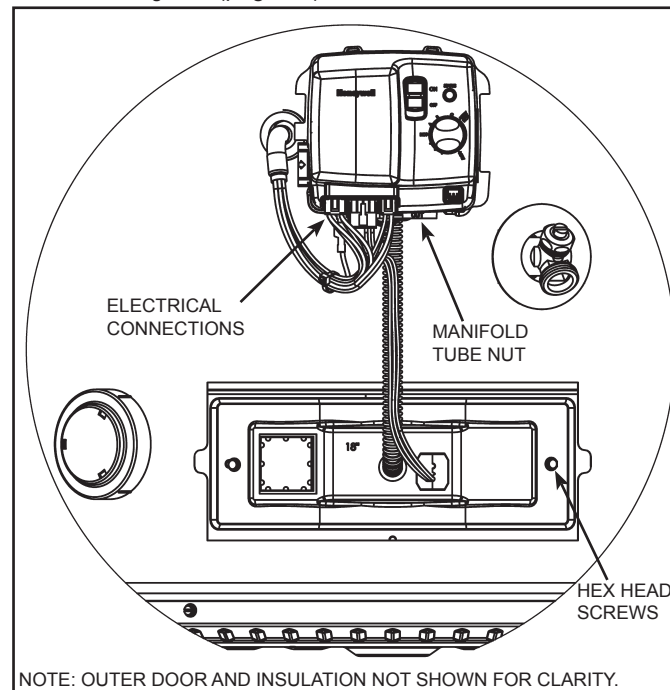
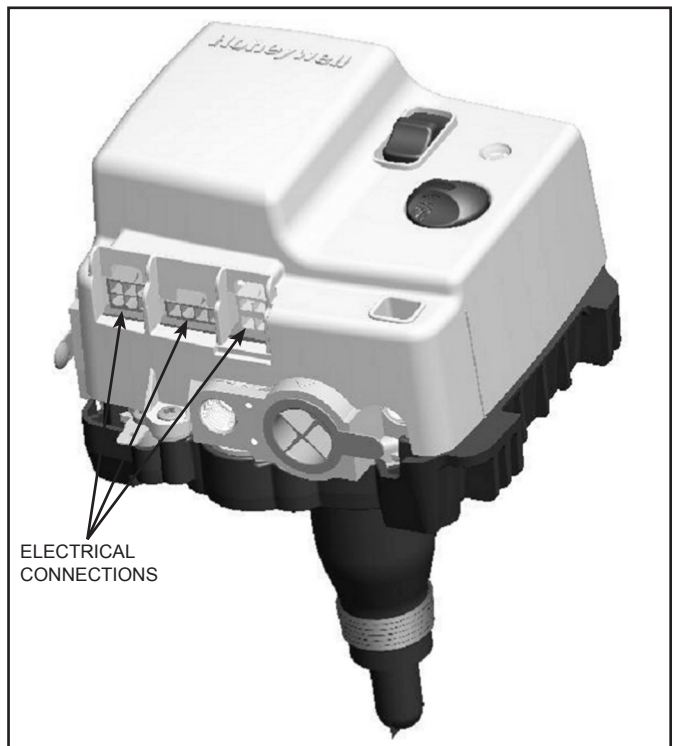
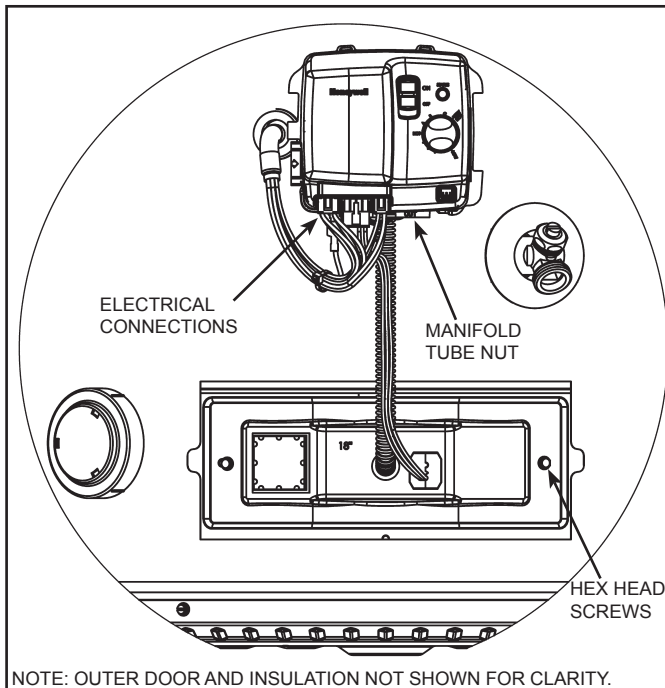

Figure 7. Electrical Connections at the Bottom of the Gas Valve
Figure 10. Electrical Connections on the Gas Valve
Figure 15. Electrical Connections at the Bottom of the Gas Valve
5. Unplug all the electrical connections from the bottom of the gas control valve/thermostat. See *Figure 7*.
6. Using a 3/4" open end wrench remove the manifold tube from the gas control valve/thermostat (turning counter-clockwise for natural gas, clockwise for LP). Grasp the manifold tube and push down slightly to free the manifold tube from the gas control valve/thermostat. See *Figure 7*.
8. Use a 1/4" nut-driver or 1/4" socket & ratchet to loosen the 2 hex head screws on the inner door so the inner door/manifold/burner assembly can be removed. See *Figure 7*.
2. After confirming no materials of any type are between door gasket and combustion chamber shield, align the screws on the inner door with the screw holes on the combustion chamber and tighten with 1/4" nut-driver or 1/4" socket & ratchet. See *Figure 7*.
Note: Do Not apply any thread sealant at this connection). To prevent any cross threading the manifold tube should be started by hand (turn clockwise for natural gas, counter-clockwise for LP). Upon tightening with the fingers and confirming it has not been cross threaded, tighten nut with a 3/4" open end wrench. See **Figure 7** (page 8).
5. Reconnect all the electrical connections to the bottom of the gas control valve/thermostat, gently pushing each connector up until it snaps into place. See **Figure 7** and **Figure 10**.
- Reconnect all the electrical connections to the bottom of the gas control valve/thermostat, gently pushing each connector up until it snaps into place. See **Figure 10** and **Figure 11** (page 12).
5. Unplug all the electrical connections from the bottom of the gas control valve/thermostat. See **Figure 15** (page 14).
6. Using a 3/4" open end wrench remove the manifold tube from the gas control valve/thermostat (turning counter-clockwise for natural gas, clockwise for LP). Grasp the manifold tube and push down slightly to free the manifold tube from the gas control valve/thermostat. See **Figure 15** (page 14).
8. Use a 1/4" nut-driver or 1/4" socket & ratchet to loosen the 2 hex head screws on the inner door so the inner door/manifold/burner assembly can be removed. See **Figure 15** (page 14).
2. After confirming no materials of any type are between door gasket and combustion chamber shield, align the screws on the inner door with the screw holes on the combustion chamber and tighten with 1/4" nut-driver or 1/4" socket & ratchet. See **Figure 15** (page 14).
Note: Do Not apply any thread sealant at this connection). To prevent any cross threading the manifold tube should be started by hand (turn clockwise for natural gas, counter-clockwise for LP). Upon tightening with the fingers and confirming it has not been cross threaded, tighten nut with a 3/4" open end wrench. See **Figure 15** (page 14).
- Reconnect all the electrical connections to the bottom of the gas control valve/thermostat, gently pushing each connector up until it snaps into place. See **Figure 10** (page 10) and **Figure 15** (page 14).
- Note:** **Do Not** apply any thread sealant at this connection). To prevent any cross threading the manifold tube should be started by hand. (Turn clockwise for natural gas, counter-clockwise for LP.) Upon tightening with the fingers and confirming it has not been cross threaded, tighten nut with an 3/4" open end wrench. See **Figure 15** (page 14).
4. Reconnect all the electrical connections to the bottom of the gas control valve/thermostat, gently pushing each connector up until it snaps into place. See **Figure 10** and **Figure 15**).
5. Reconnect all the electrical connections to the bottom of the gas control valve/thermostat, gently pushing each connector up until it snaps into place. See **Figure 10** (page 10) and **Figure 15** (page 14).